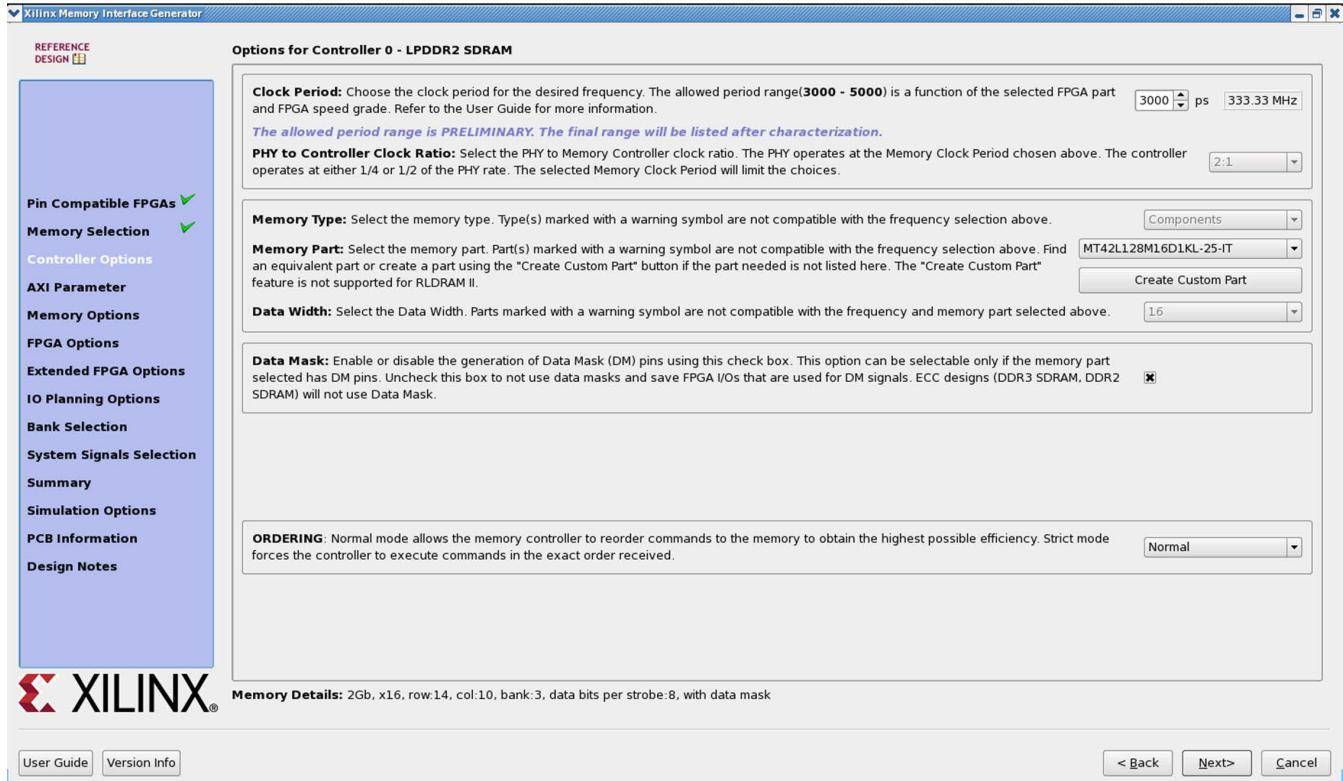

Figure 4-5: Controller Options Page
This page shows the various controller options that can be selected (Figure 4-5).
- **Memory Details** – The bottom of the Controller Options page (Figure 4-5, page 392) displays the details for the selected memory configuration (Figure 4-6).